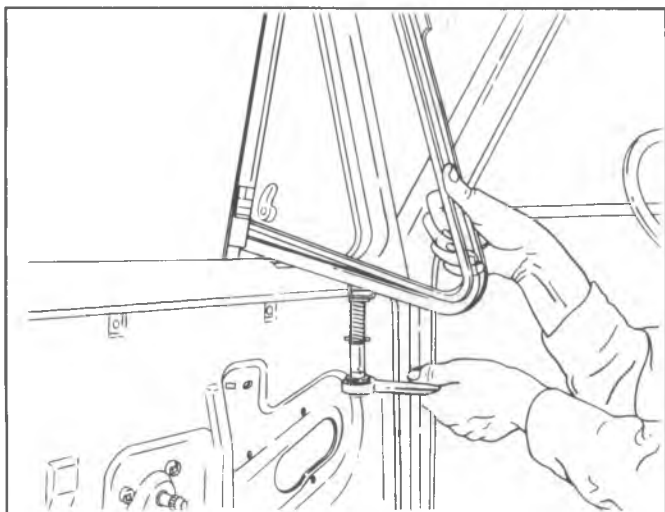

Fig. 2D-115--Adjusting Ventilator Tension
6. Slide glass forward until front roller is in line with notch in sash channel. Disengage roller from channel. See figure 2D-116.